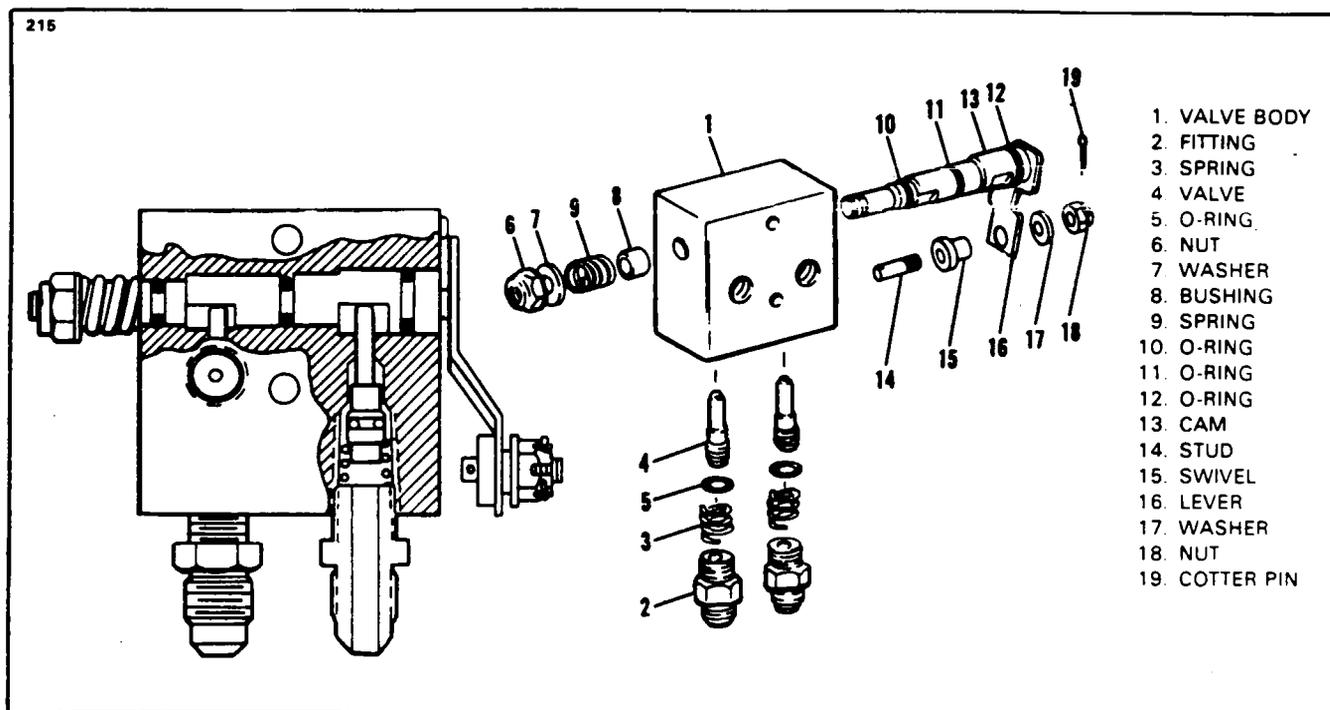

Figure 32-21. Parking Brake Valve Assembly
**DISASSEMBLY OF PARKING BRAKE VALVE. (Refer to Figure 32-21.)**
**ASSEMBLY OF PARKING BRAKE VALVE. (Refer to Figure 32-21.)**